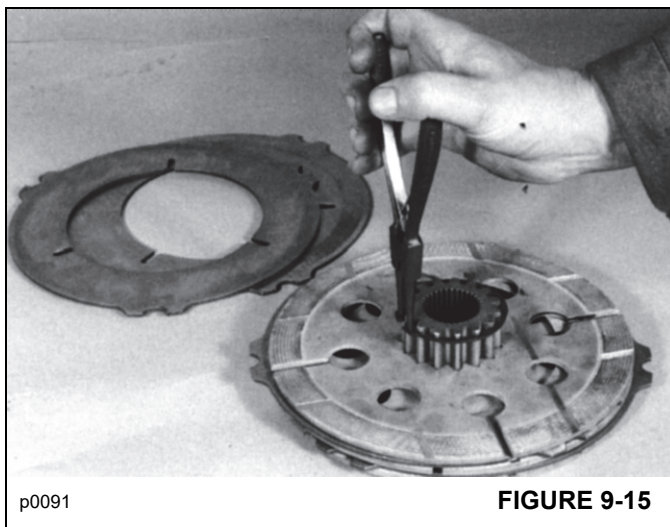

FIGURE 9-15
4. Remove the retaining ring Figure 9-15. If the brake pack is to be reused, note the position of the plates before removing them.